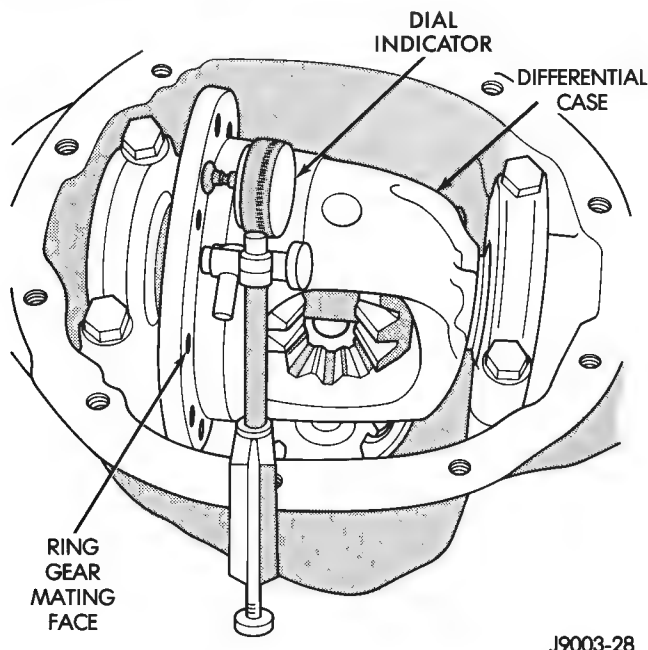

Fig. 38 Shim Measurement
(5) Install the marked bearing caps in their correct positions. Install and snug the bolts.
(6) Attach a dial indicator to the housing. Position the indicator plunger so that it contacts the ring gear mating surface (Fig. 38).